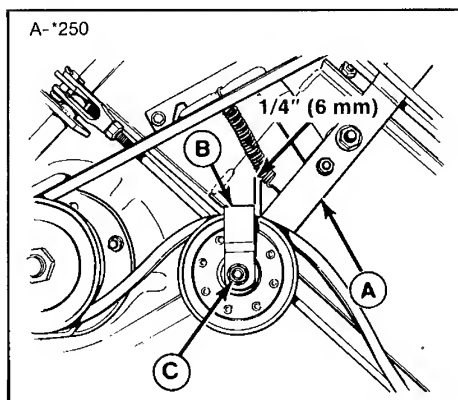

Figure 33. Idler Pulley Belt Guide
The idler pulley belt guide is correctly adjusted when its edge is 1/4 inch (6 mm) from the rear edge of the idler arm (figure 33). If not, loosen the nut (C) and move the belt guide. Tighten the nut and recheck the measurement.